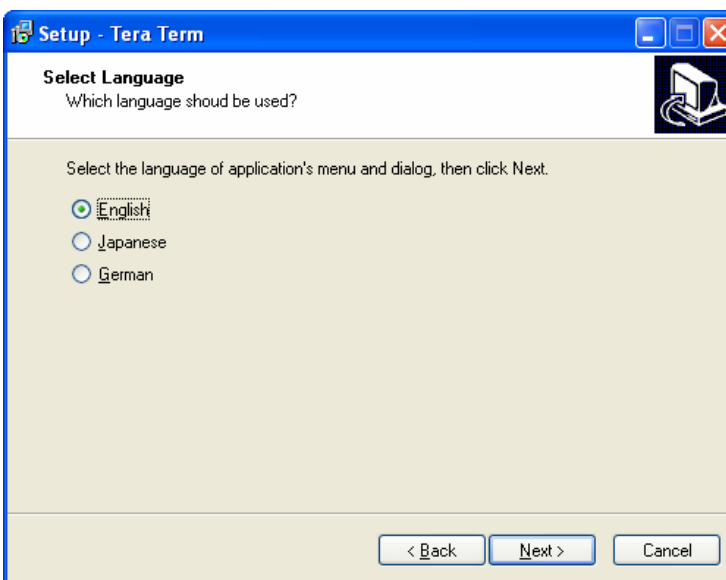

Figure 6-9: Select Language Screen
11. Select a language, then click **N**ext (Figure 6-9).